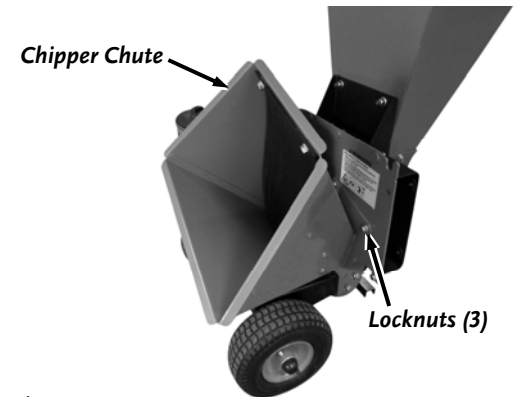

Figure 25
2. Use a 1/2" Wrench to remove the three Locknuts that secure the Chipper Chute and lift it off the machine (**Figure 25**).